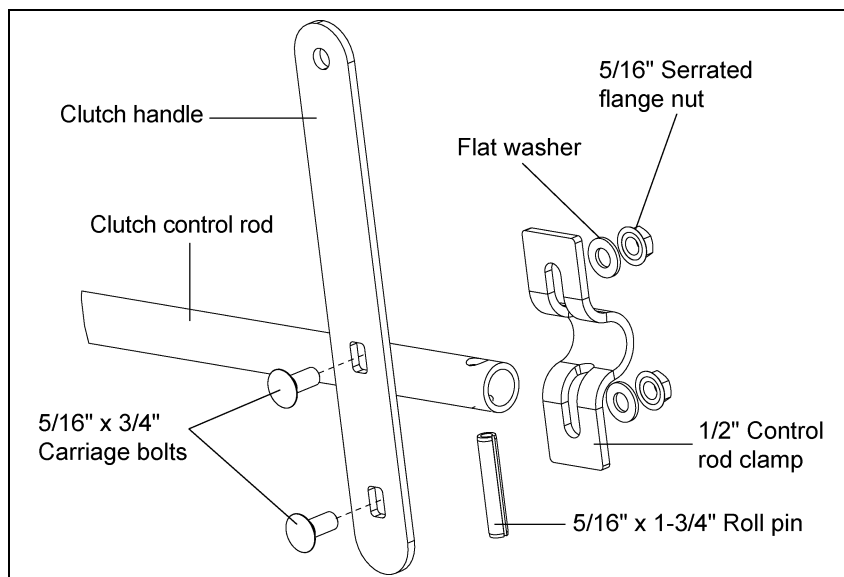

Figure 4V
4. Fasten the clutch handle to the clamp using two (2) 5/16" x 3/4" carriage bolts, flat washers and serrated flange nuts. The short end of the clutch handle should be closest to the bin pad, so as not to interfere with it. Install the nuts so that they secure the roll pin in place. (See Figure 4V.)